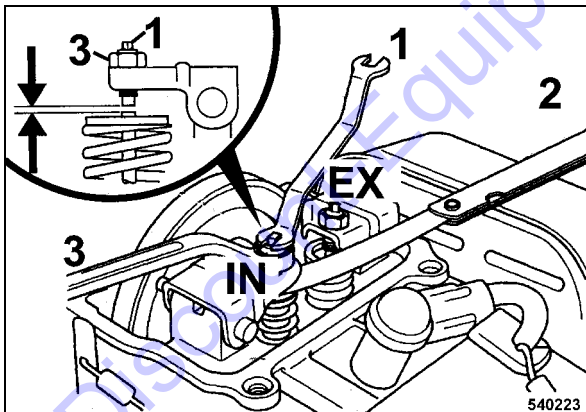

Fig. 48
- To adjust the valve hold valve adjustment screw 1 (Fig. 48) and slacken locking screw (2).